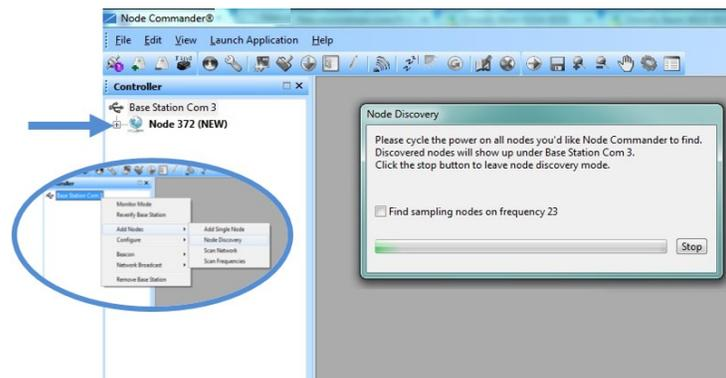

Figure 15 - Using Node Discovery
1. Right-click on the gateway name and select Add Node > Node Discovery (Figure 15 - Using Node Discovery).